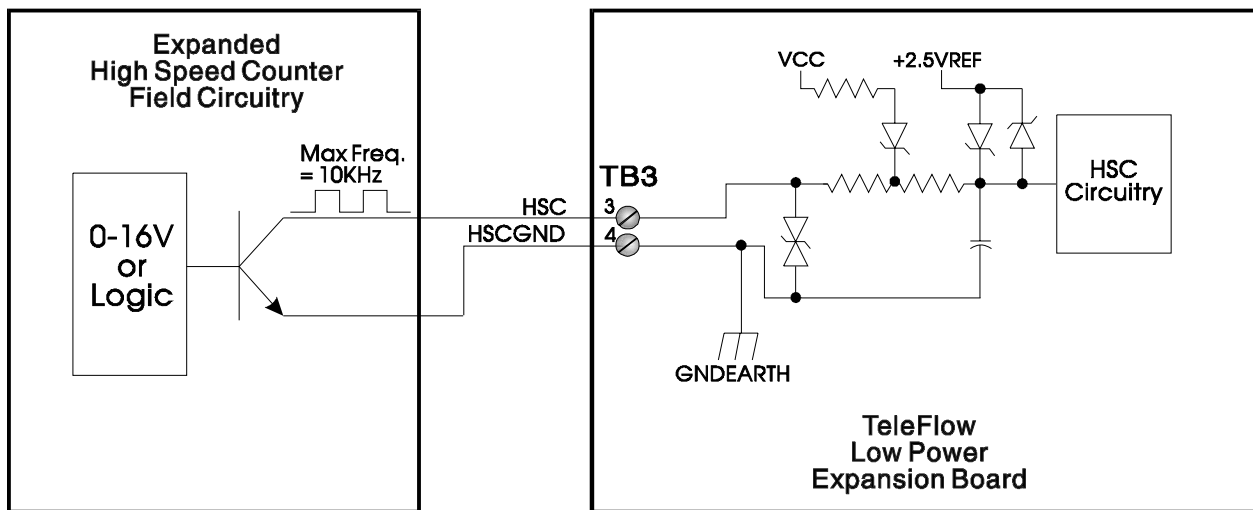

Figure 10 - LPI/OEB High Speed Counter Configuration
2.2.5 LPI/OEB High Speed Counter Wiring (TB3) (see Figure 10 & Table 1)